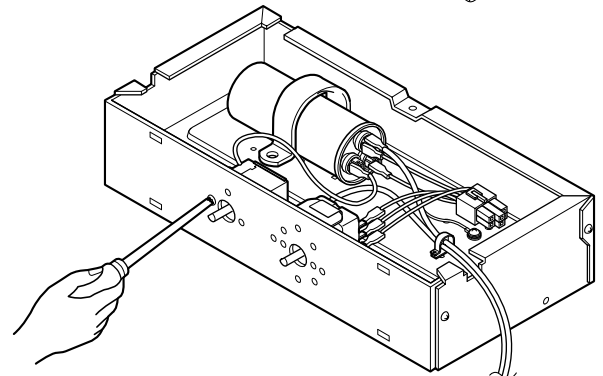

Figure 13
5. Re-install the components by referring to the above removal procedure. (See Figure 13)